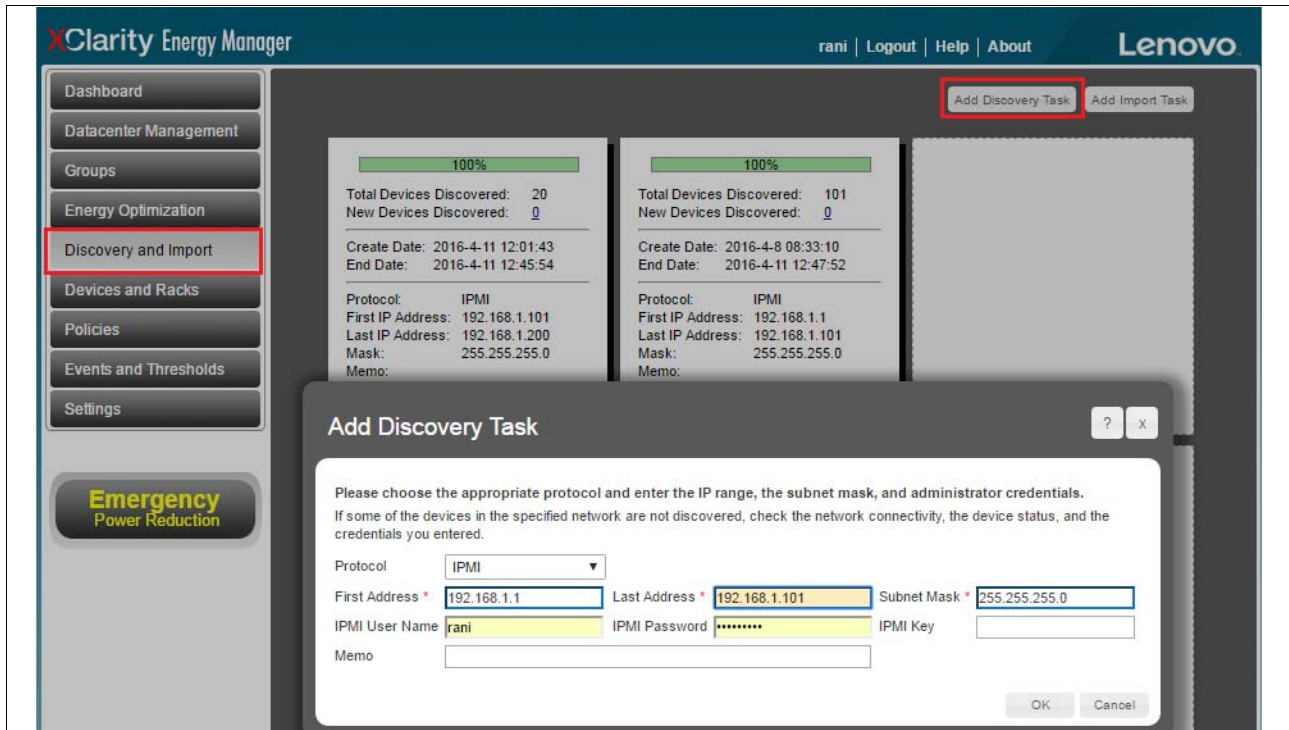

Figure 7-40 Discovery and import
1. Discovery: To discover devices in the network, start from **Discovery and Import** on the left side navigation menu as seen in Figure 7-40 on page 276.